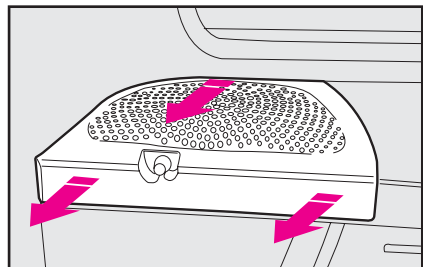
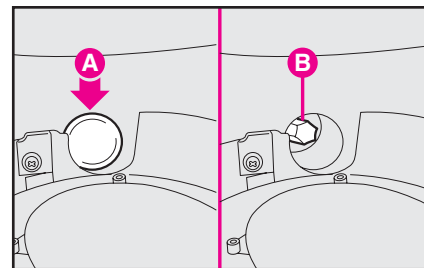

fig. 25
fig. 26
1) Working inside the vehicle: remove the plastic cover **fig. 25** set on the speaker seat fitting the screwdriver under the plastic and making it slide in parallel with the slot to spring the 2 front catches, pull the plastic cover parallel with the supporting surface to spring the rear catch and then remove the upper plastic cover **A-fig. 26** using the screwdriver provided, in order to make visible the fastening bolt **B** of the light unit.